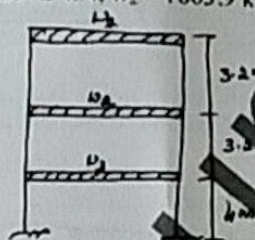

Fig.Q7
- 7 For the residential RCC, special moment resisting frame shown in Fig.Q7. Compute the seismic forces by equivalent static procedure. Building is founded on hard soil (rock) and situated in Zone-IV. Given $w_1 = 294.3$ kN, $w_2 = 1863.9$ kN and $w_3 = 1079.1$ kN.